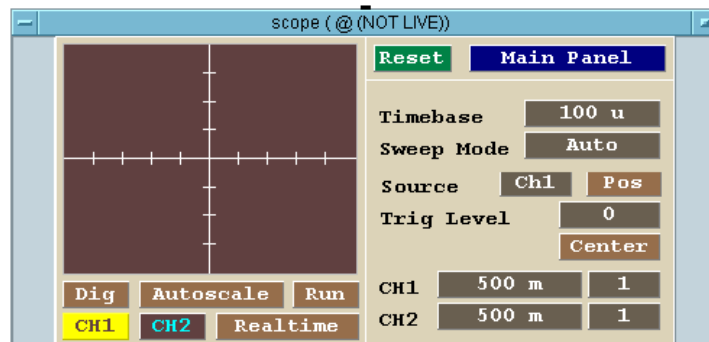

Figure 3-11. Selecting `scope(@ (NOT LIVE))`
3. Place the outline of the scope panel and click to place it. The display should look similar to Figure 3-11.